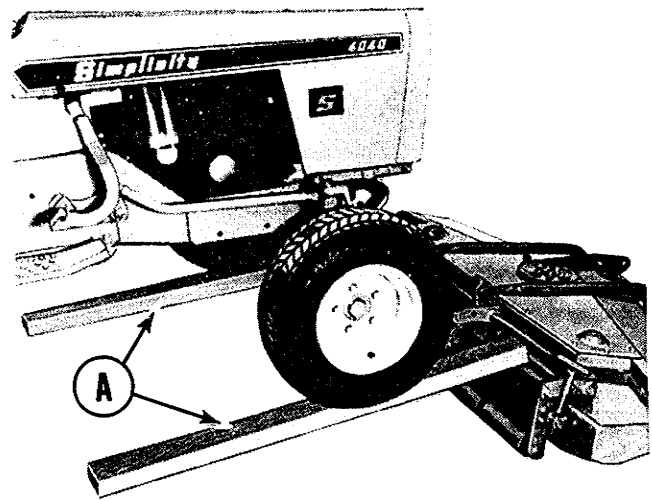

Figure 2. Ramps used to drive tractor onto mower deck.
2. To get the mower in position under the tractor, either slide the mower under the tractor from either side or position the mower in front of the tractor and drive the front wheels over the mower deck as shown in figure 2. If the mower is to be driven over while on a smooth, hard surface, boards or ramps (figure 2, item A) similar to those shown must be placed at the rear of the mower to allow the front wheels to climb on the mower without pushing the mower ahead. Remove the ramps as soon as the tractor front wheels are on the mower deck. If the mower is on a soft ground surface, the ramps will not be required as the front edge of the mower will dig into the ground and prevent the mower from sliding. **CAUTION: BE SURE THE FRONT WHEELS OF THE TRACTOR ARE CENTERED BETWEEN THE MOWER HEIGHT ADJUSTING HANDLES BEFORE ATTEMPTING TO DRIVE THE TRACTOR ON THE MOWER DECK.**